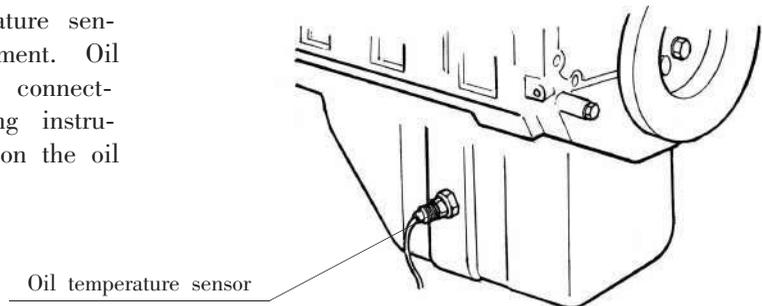

Fig 5-57 Oil Temperature Sensor
8.4 Oil temperature sensor: optional equipment. Oil temperature sensor is connected with the detecting instruments, and installed on the oil sump (see Fig 5-57).